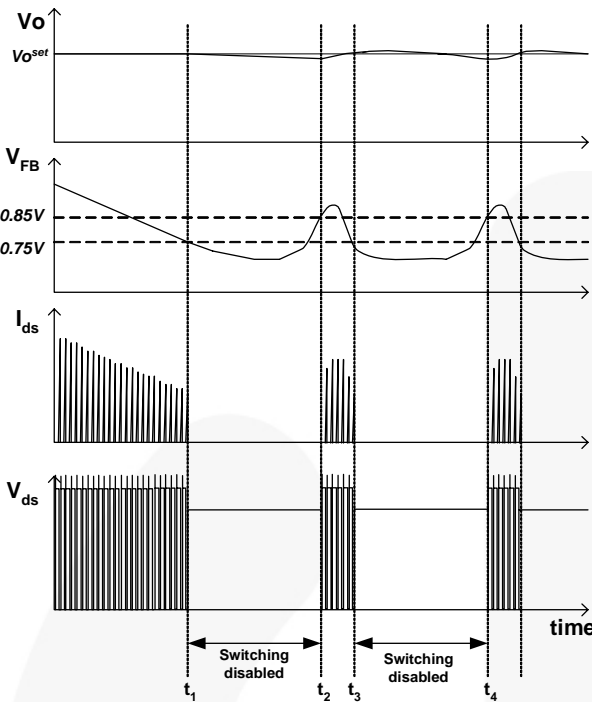

**Figure 17. Overload Protection**
**4.1 Overload Protection (OLP):** Overload is defined as the load current exceeding its normal level due to an unexpected event. In this situation, the protection circuit should trigger to protect the SMPS. However, even when the SMPS is in the normal operation, the overload protection circuit can be triggered during the load transition. To avoid this undesired operation, the overload protection circuit is designed to trigger only after a specified time to determine whether it is a transient situation or a true overload situation. Because of the pulse-by-pulse current limit capability, the maximum peak current through the SenseFET is limited and, therefore, the maximum input power is restricted with a given input voltage. If the output consumes more than this maximum power, the output voltage ( $V_o$ ) decreases below the set voltage. This reduces the current through the opto-coupler LED, which also reduces the opto-coupler transistor current, increasing the feedback voltage ( $V_{FB}$ ). If  $V_{FB}$  exceeds 2.8V, D1 is blocked and the 5 $\mu$ A current source starts to charge  $C_B$  slowly up. In this condition,  $V_{FB}$  continues increasing until it reaches 4.7V, when the switching operation is terminated, as shown in Figure 17. The delay time for shutdown is the time required to charge  $C_B$  from 2.8V to 4.7V with 5 $\mu$ A. A 20 ~ 50ms delay time is typical for